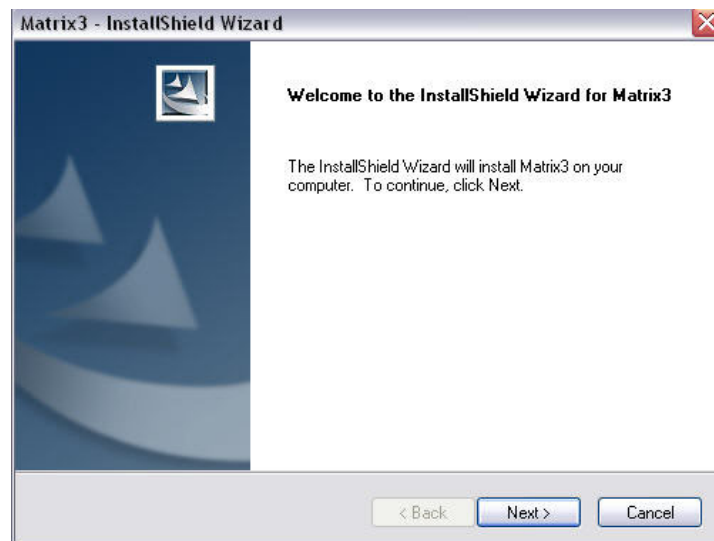

FIG. 7
8. Click NEXT to continue software installation and advance to the InstallShield Wizard for Matrix3 (FIG. 7). Click The BACK button to return to a previous installation screen or CANCEL to end the software installation.
9. Click NEXT. The InstallShield Wizard for Matrix3 begins the installation (FIG. 7).